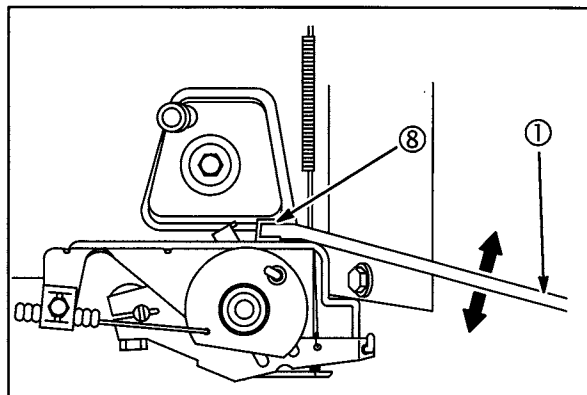

Fig. 45
10. Bend tang (8) with Tool #19352 (1) to obtain desired top no-load RPM, Fig. 45.